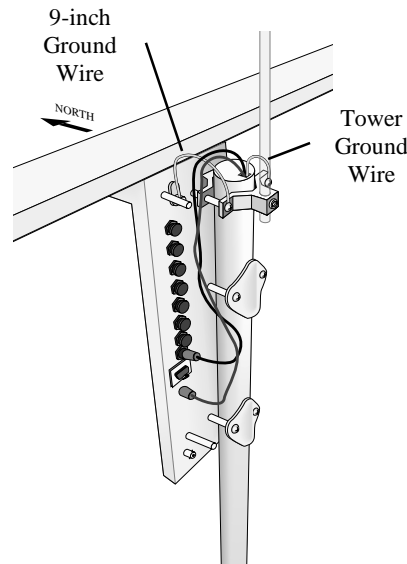

FIGURE 3.1-3. Mounting and Grounding the T.Weather 106 Enclosure
1. Mount and ground the T.Weather 106 enclosure on the T.Weather 106 Tower as shown in Figure 3.1-3.